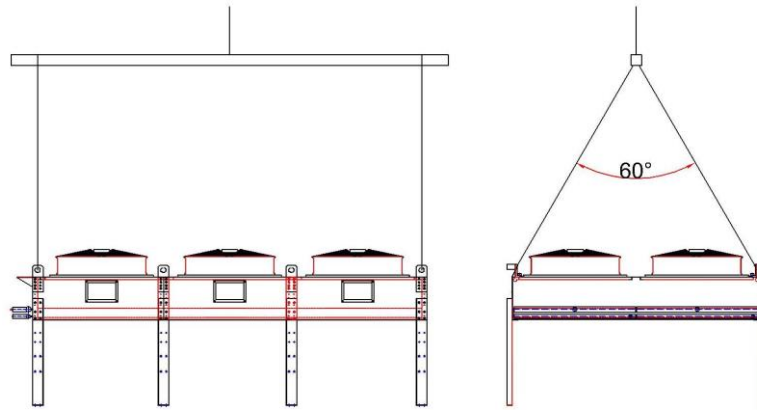

Figure 2) Transportation examples
- Airflow should not be obstructed on the positioning. Positioning examples are shown in Figure 2.